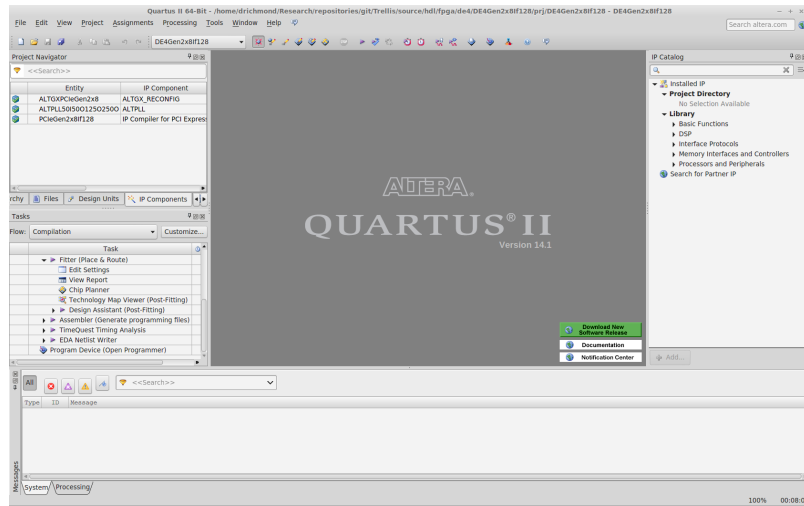

Figure 5.2: Project Splash Screen for Quartus Projects
3. In the RIFFA 2.2.2 distribution, open *RIFFA 2.2.2/source/fpga/de4/* and choose from one of the existing example design directories for your board. In the example design directory, locate the *prj* folder and open it. Select the .qpf file and click open. This will open the example project, as shown in Figure 5.2.
- To recompile the example design, click the compile button in the top left corner as shown in Figure 5.2.